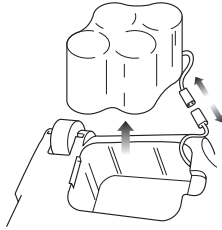

Fig. 14
- 4 Carefully lift out the battery pack and disconnect the wire terminals by pressing on the latch and pulling apart the wire terminal connectors. Remove the battery pack. (Fig. 14)